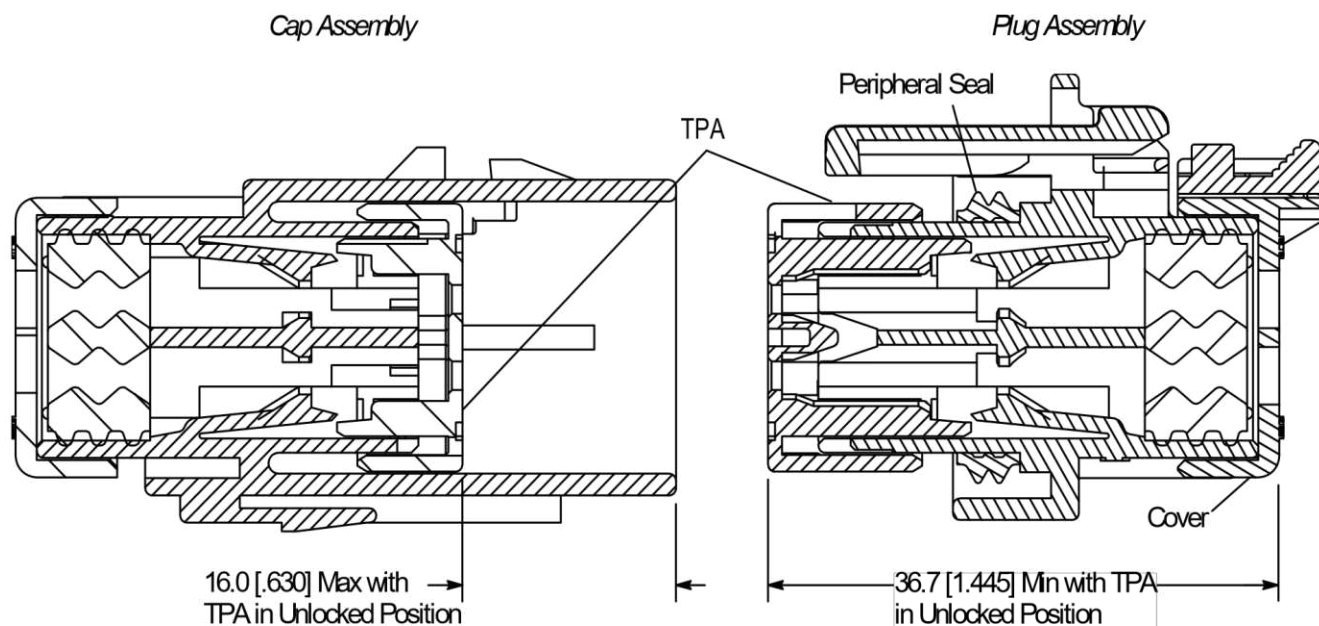

Figure 5
Crimped contacts (Refer to Application Specification 114-13045) shall be manually loaded into the housing assemblies. Socket contacts shall be loaded into plug assemblies, while the pin contacts shall be loaded into the cap assemblies. Refer to Figure 5 and insert the contacts into the housings assemblies with the information as follows:
1. Verify that the TPA is in the pre-staged position (un-locked). To verify the plug assembly TPA is in the correct position, check the distance from the cover to the mating face of the TPA as shown in Figure 5 (there will be clearance between the seal and the TPA as illustrated). The location of the TPA for the cap assembly should be as shown in Figure 5 when in the pre-staged position.